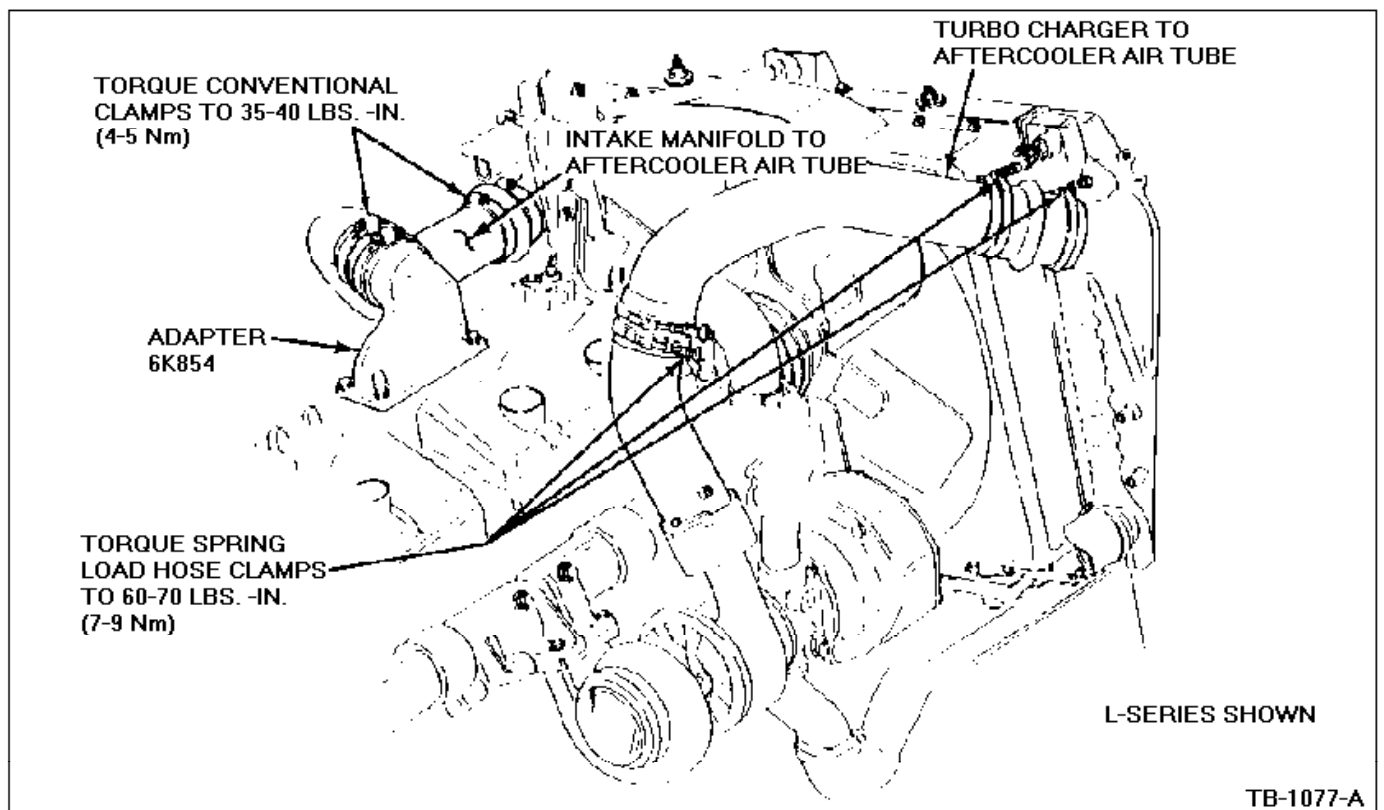

Figure 1 - Article 89-9-19
1. Remove the existing turbocharger to aftercooler air tube, Figure 1.
2. Remove the existing intake manifold to aftercooler air tube, Figure 1.